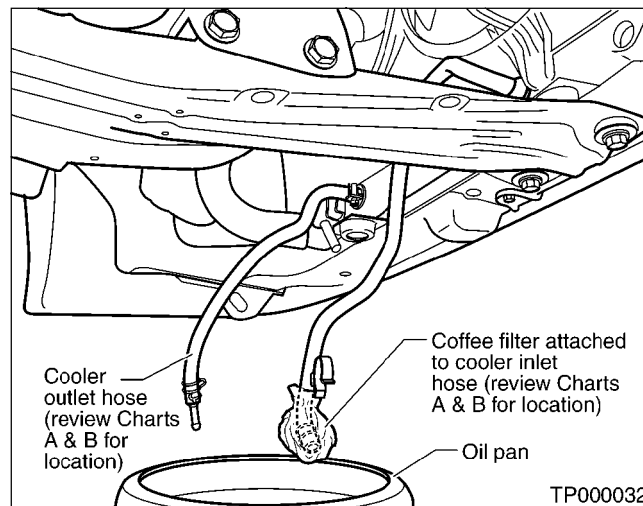

Figure 10
5. Tie a common white, basket-type coffee filter to the end of the cooler Inlet hose (see Figure 10).